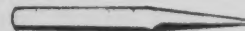

Figure 1-93. Centre Punch
d) Centre, drive-pin, drift, and aligning punches are shown in Figures 1-93 to 1-96.